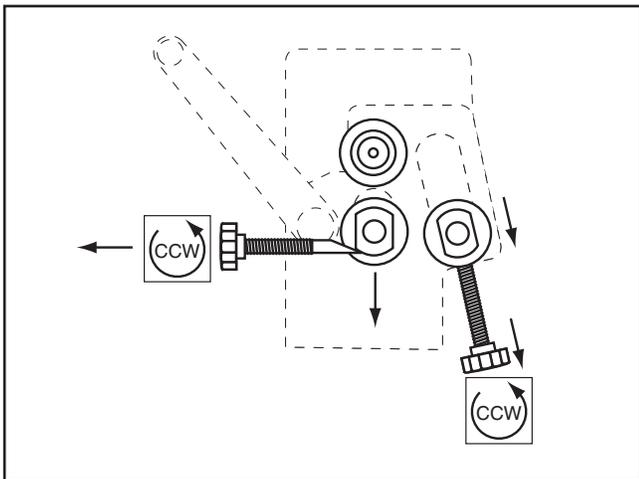

Figure 12. Slip roll preparation.
1. Turn the thickness adjust knob to lower the lower roller to approximately $\frac{1}{4}$ " below the upper roller. Use calipers or a spacer to set the distance between the rollers evenly at each end (**Figure 12**).